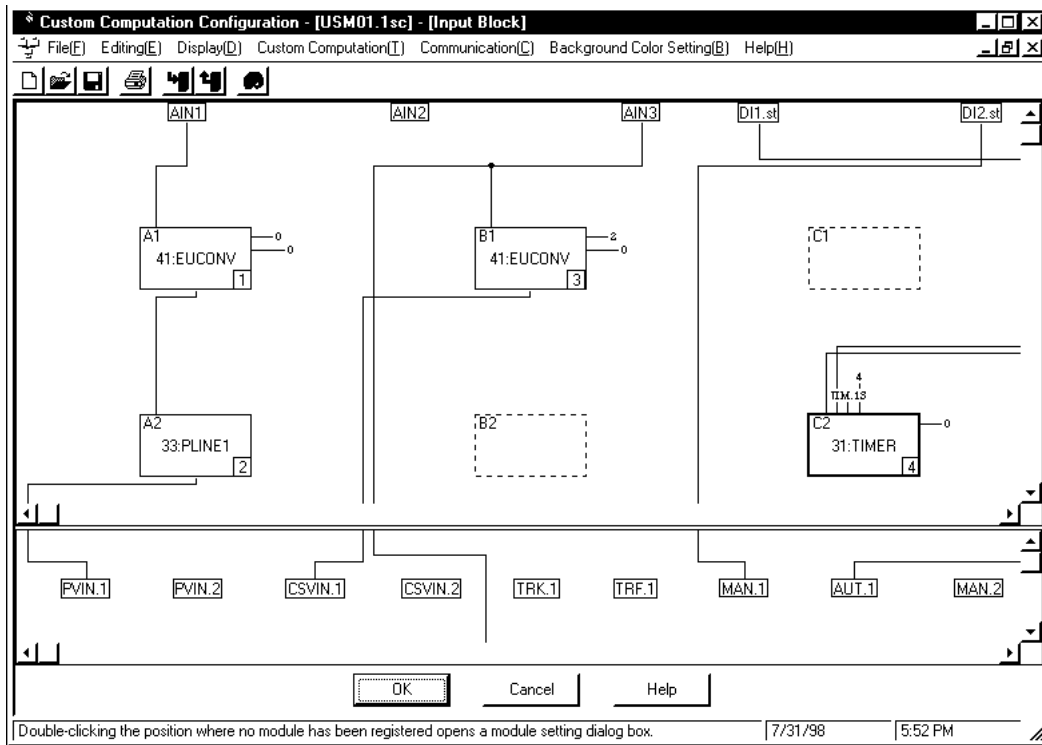

Figure 12.5.12 Example of the [Input Block] Dialog Box (finished view) Where a Four-second Timer Is Implemented
- ① In the [Input Block] dialog box (Figure 12.5.12), click the registered TIMER module.